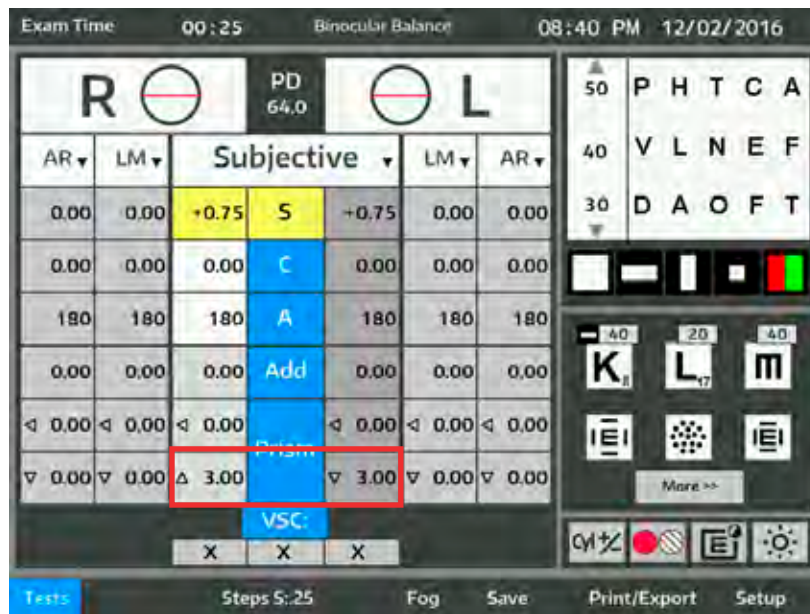

Figure IU-24 Binocular Balance with Prisms
1. Touch **TESTS** and then **BB**, on the main screen to begin the Binocular Balance prism test. Refer to Figure IU-24.